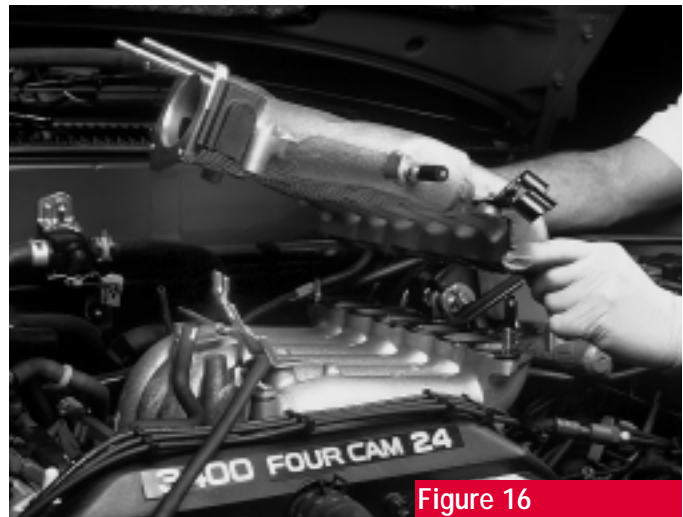
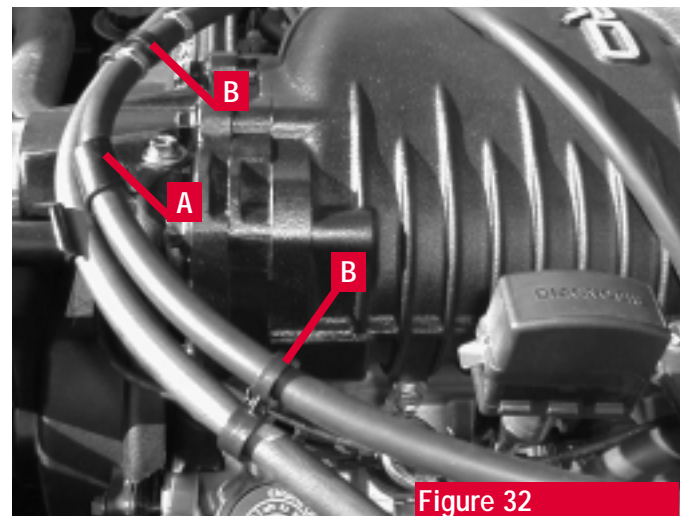

Figure 16
Figure 32
21. Remove the upper half of the intake manifold and set it aside (**figure 16**).
- Remove the throttle cable/evaporative canister hose bracket and bolt from the stock manifold (figure 16). Install the bracket on to the supercharger as shown (see arrow A, figure 32). Insert the throttle cable and evaporative canister hose, and install the supplied hose clips on the throttle cable and evaporative canister hose as shown (see arrows B, figure 32).